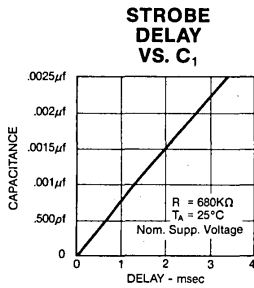

Fig. 5
* R1 (680K Ω), C1 (.001 μ f) provide approx. 1.5 ms delay (see figure 5)